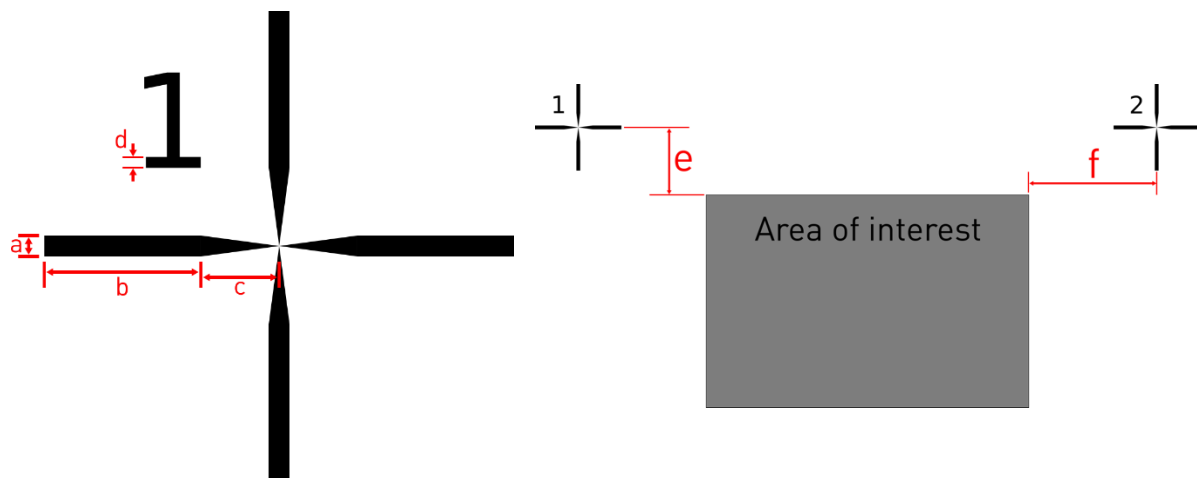

Figure 52 - Design rules. Left: focus on an alignment cross and its key dimensions. Right: cross positioning over the substrate
- Two alignment crosses surrounding the area of interest (Figure 52 right). For each design, the crosses must be at the same relative position
- Add a unique number to each cross (Figure 52 left) to avoid bad substrate orientation
Tableau 1 - Suggested dimensions for the design in Figure 52